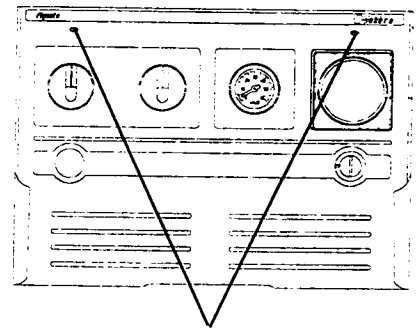

Fig.10
- 5.3.1 Remove the 2 screws securing the lower control panel to the upper outer casing.(Fig.10)
5.6.1 Figs. 10 & 18 show the locations of the fittings.